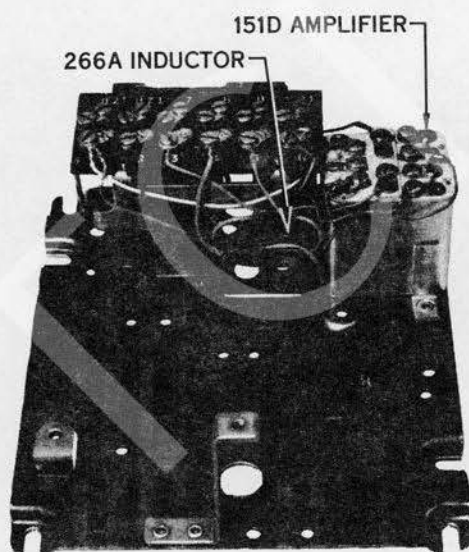

Fig. 10 — 687D Subscriber Set, Internal View
- (c) 687D: Provides transmitter amplification for head telephone sets when used with a 685C subscriber set in 2- and 4- wire services (Fig. 10).